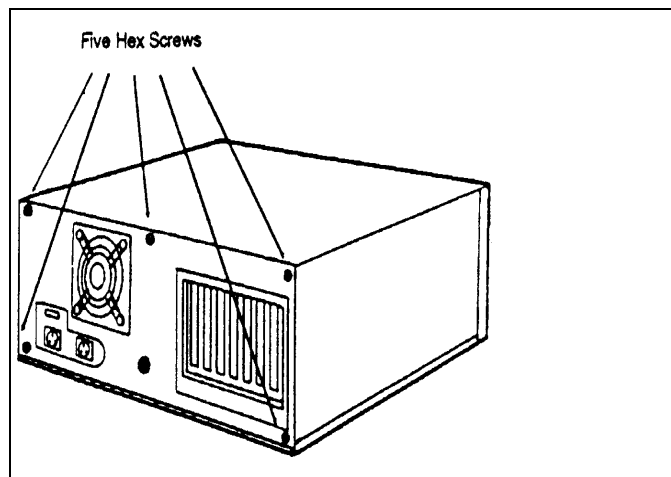

Figure 1: PC Cover Mounting Screws
- Locate and remove the cover mounting screws from the back of the chassis using a phillips screwdriver (see *Figure 1*). Put the screws in your container for safe keeping.